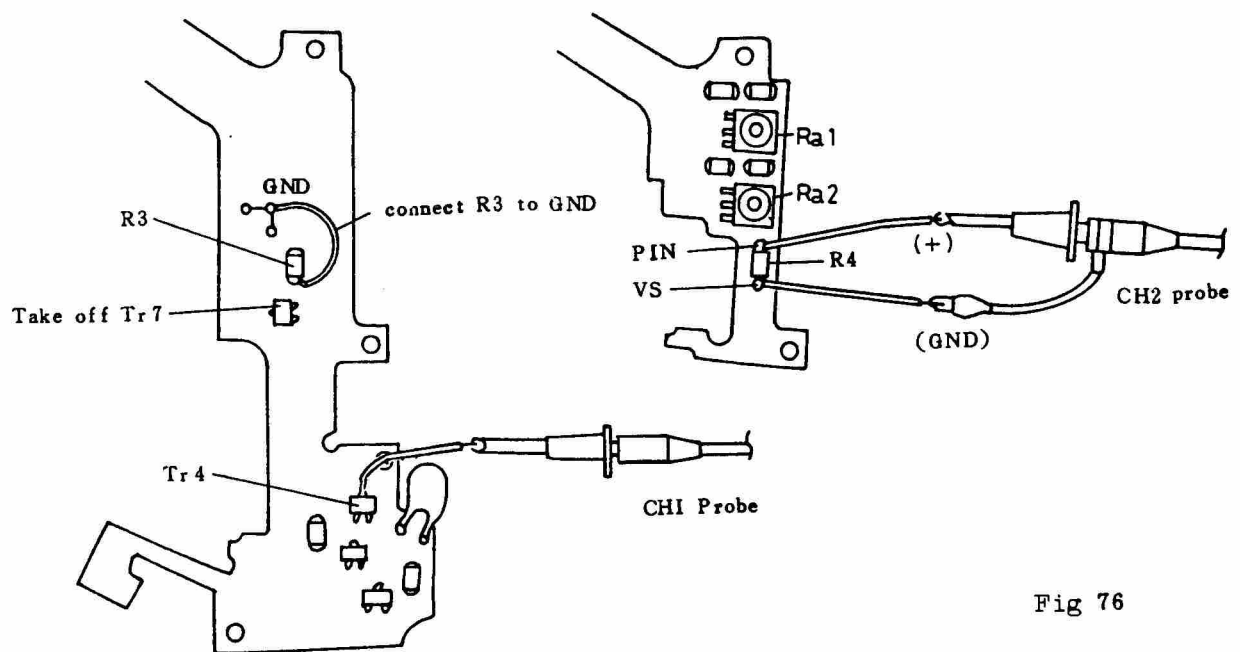

Fig 76
7. Connect the CH 2 probe to R4 (PIN), and the GND of CH 2 probe to R4 (VS). (Fig 76).